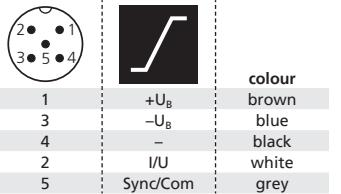

Fig. 2: Pin assignment with view onto sensor plug and colour coding of the microsonic connection cable
- Plug in the connector cable to the M12 connector, see Fig. 2.